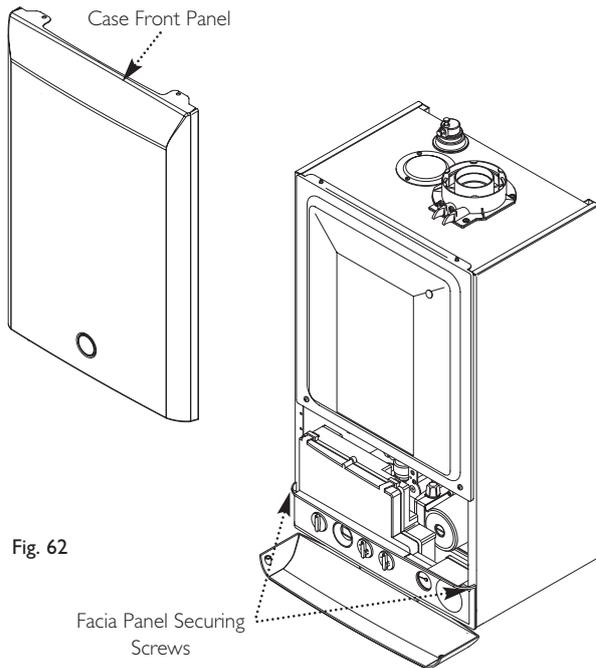

Fig. 62
5. Slacken the screws securing the facia panel. Lift the outer case panel so that its securing tabs are clear of the facia. Remove the panel, allowing the facia to hinge down (Fig. 62).